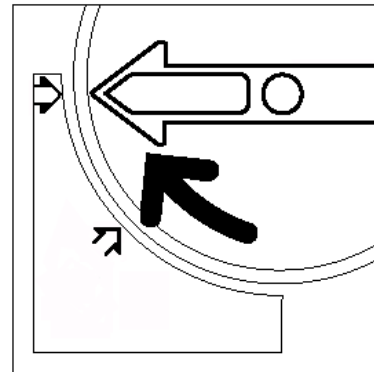

Figure 11: Rotating and securing the Cartridge
- 8** Rotate the cartridge clockwise until the arrow on the cartridge is aligned with the closed padlock on the copier/printer and the arrows on the cartridge are horizontal, as illustrated in Figure 11.